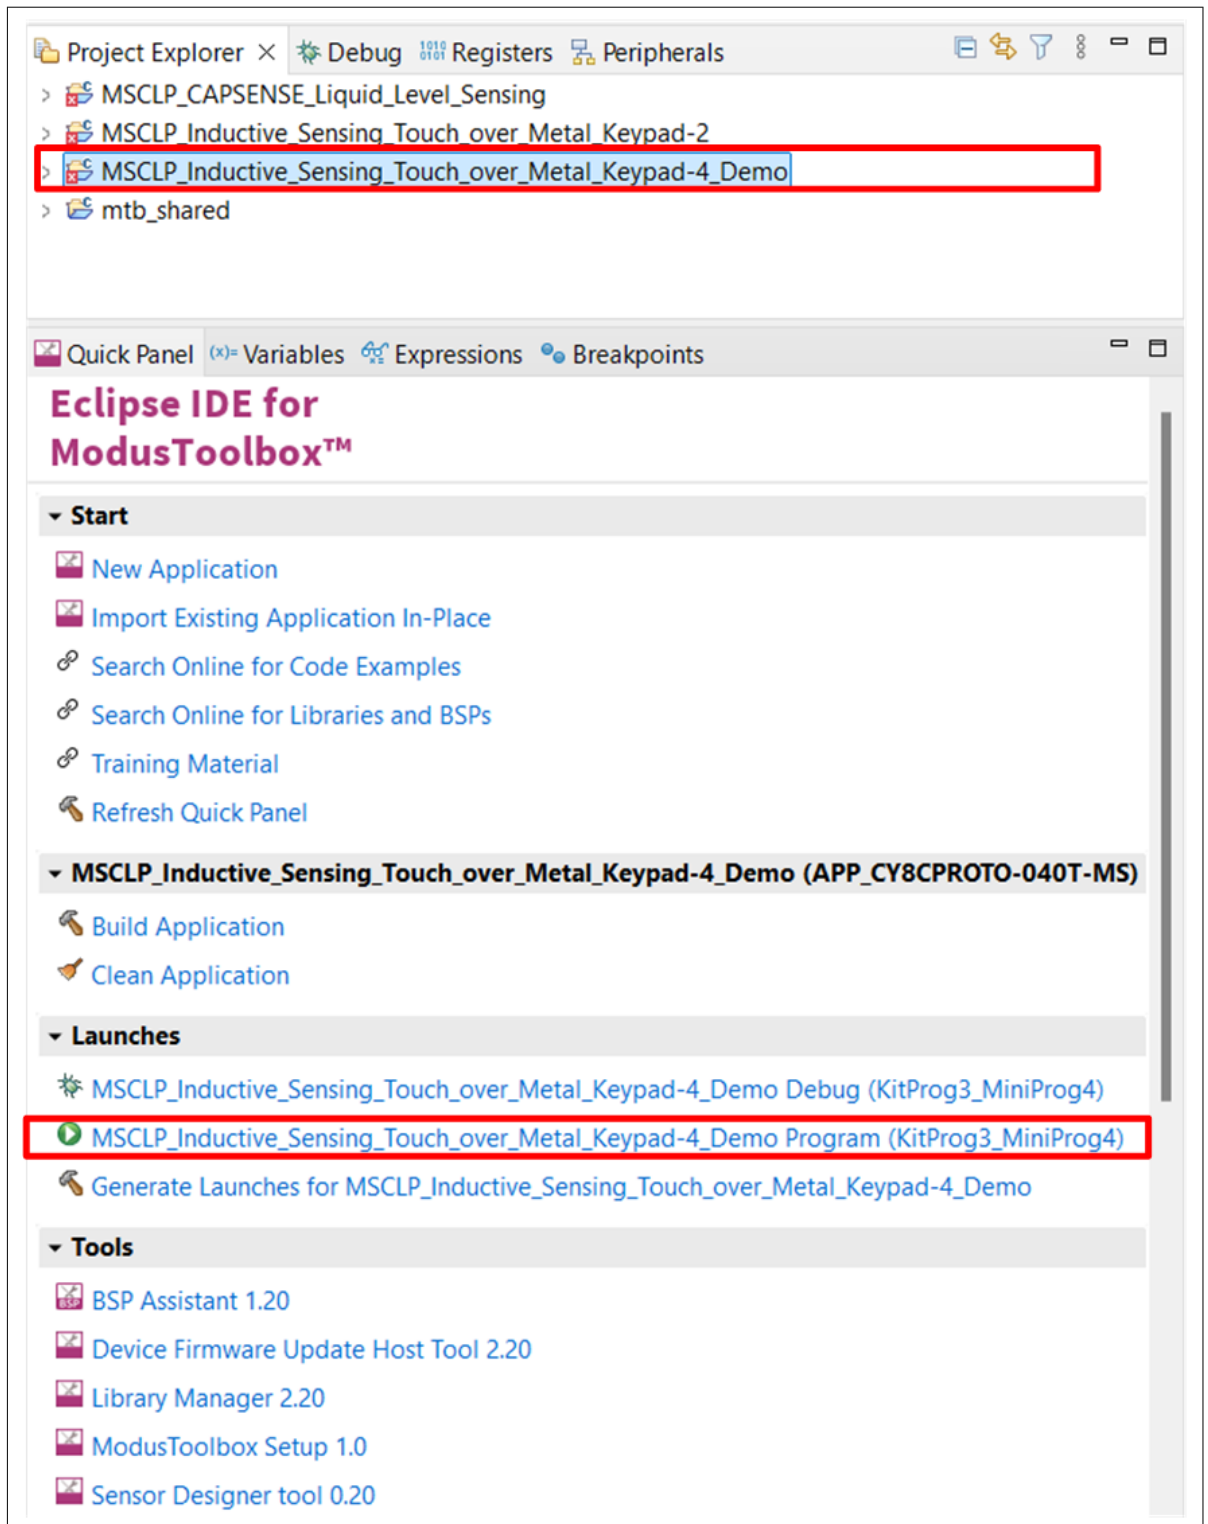

Figure 17 Building and programming the OOB code example
- b. In the **Quick Panel** tab, scroll to the **Launches** section, and click the **<App_Name> Program (KitProg3_MiniProg4)** configuration, as shown in Figure 17